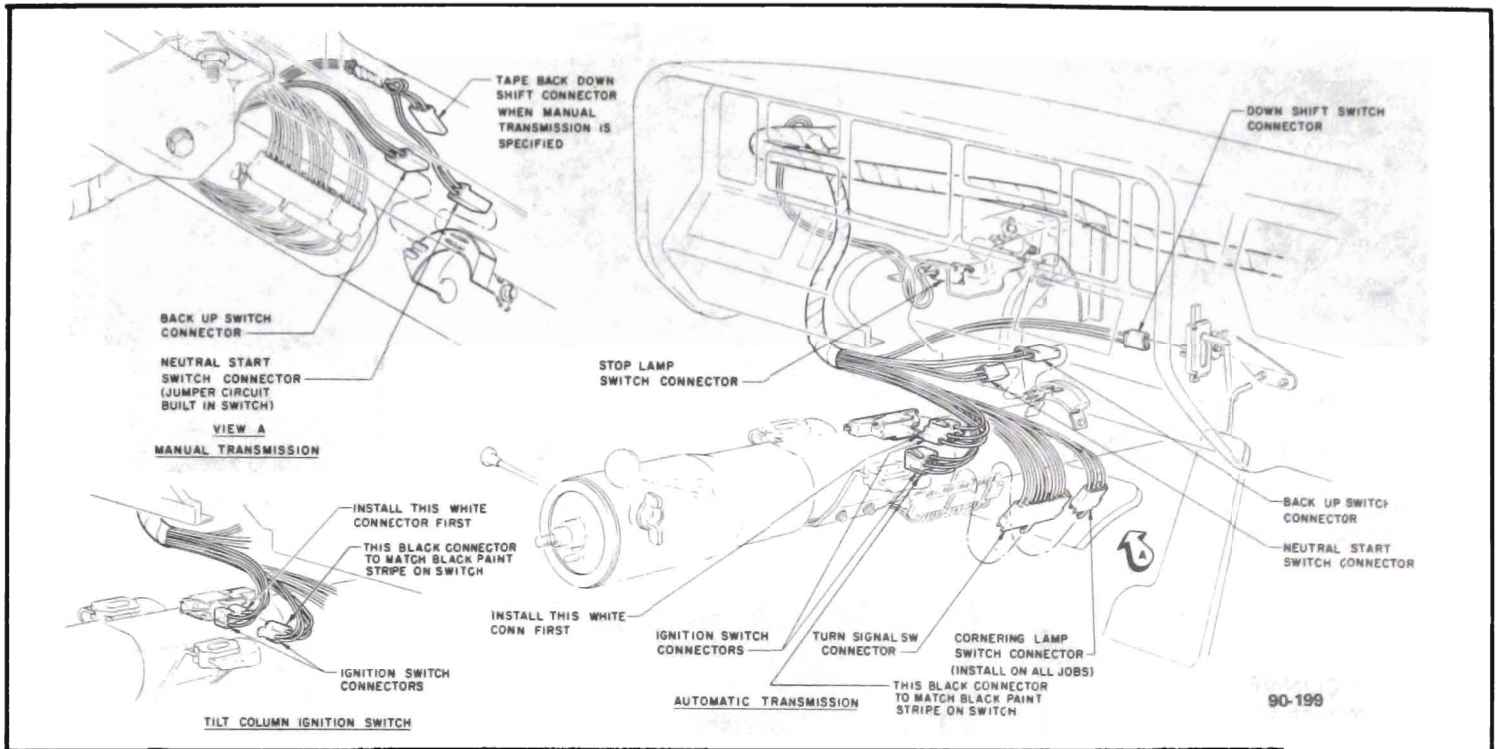

Figure 90-102 45-46-48000
2. Connect all electrical connectors to steering column. See Figure 90-102 or 90-103.